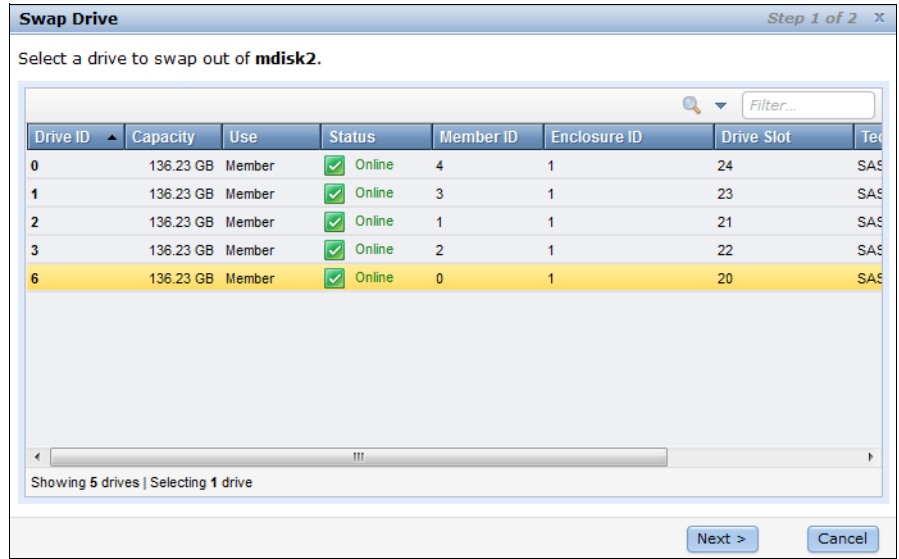

Figure 8-48 Select a drive to swap out of the MDisk
- ▶ **Swap drive:** The Swap Drive action can be used to replace a drive in the array with another drive with the status of Candidate or Spare. This action is used to replace a drive that has failed, or is expected to fail soon. For example, as indicated by an error message in the event log. Select an MDisk containing the drive to be replaced and click **RAID Actions** → **Swap Drive**. In the Swap Drive window (Figure 8-48), select the member drive to be replaced and click **Next**.